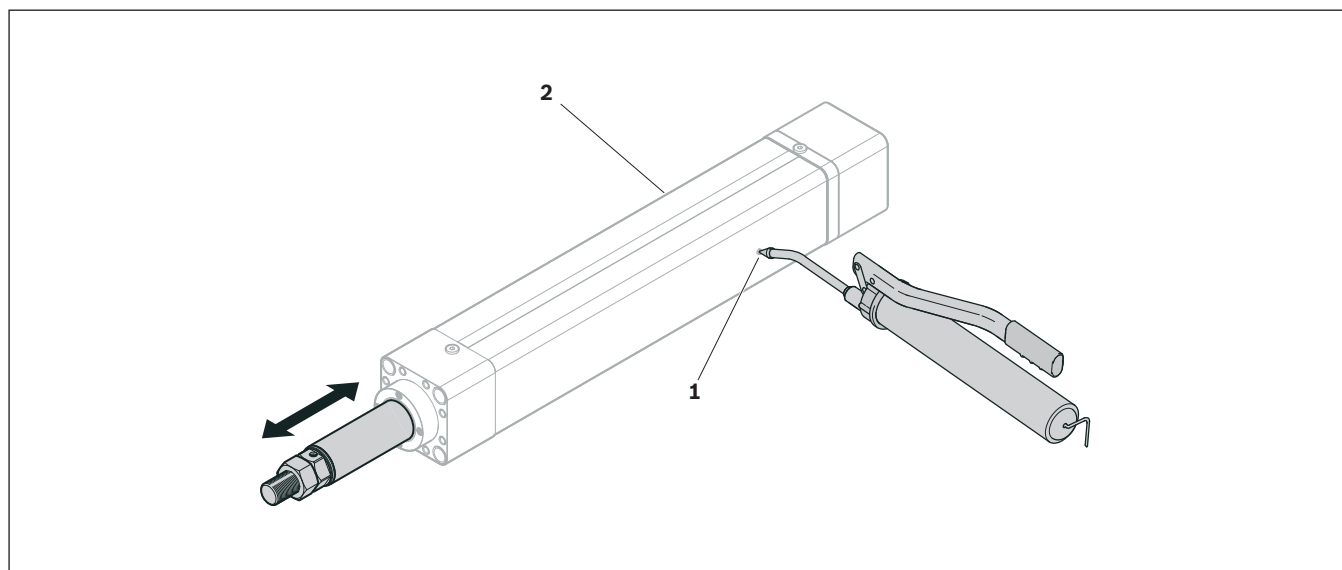

Fig. 38: Lubricating the EMC-HP
- 3. Apply grease to the screw drive via the lube nipple **(1)** or **(2)** ➡ Fig. 38 on page 39. Apply the grease in several partial amounts. Travel over the entire stroke between lubricating procedures.